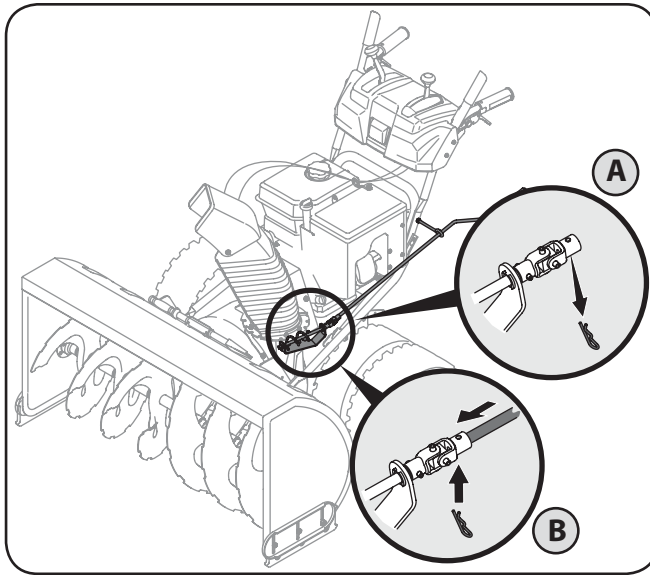

Fig. 3-4
1. Remove the hairpin clip from the lower chute crank as shown in A of Fig. 3-4.
2. Insert the upper chute crank into the fitting on the lower chute crank as seen in B of Fig. 3-4.